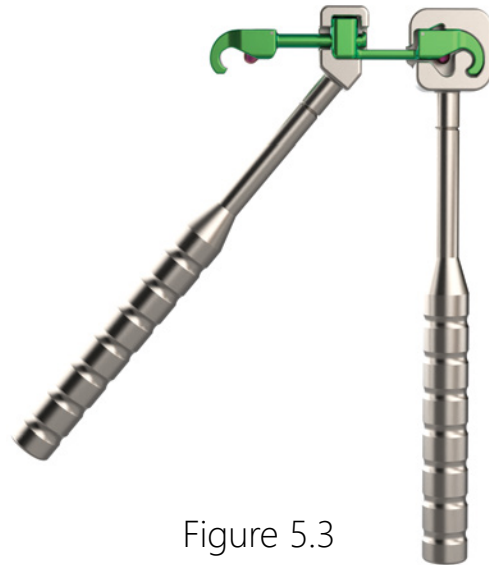

Figure 5.3
2. To contour the CrossLynxx Cross Connector, place the female end of the implant into the end of the CrossLynxx Bender as shown. Only the female side of the connector is placed into the bender (Figure 5.3). The other bender fits over the middle segment of the implant.